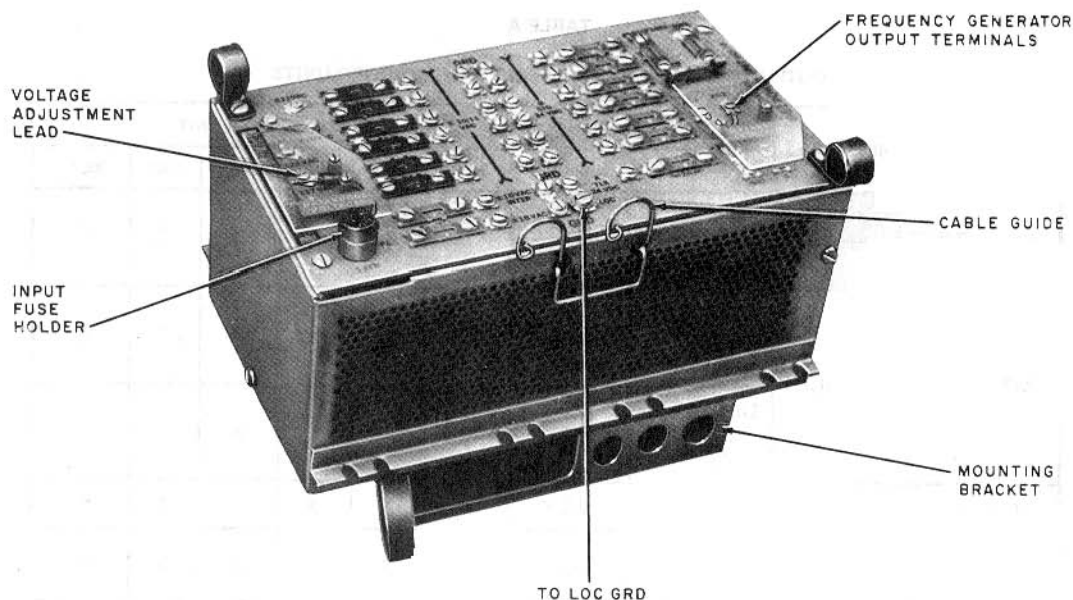

Fig. 3—30C1 Power Unit (Rack Mounted) Cover Installed
2.02 The 29B1 (Fig. 2) and 30B1 power units are fitted with a parallel blade U-grounding receptacle for use with prewired power cords. The 29C1, 29E1, and 30C1 (Fig. 3) power units are fitted with a molded plug and cord for use with the prewired cords. The prewired power cords are available in the following lengths and should be ordered separately.
**3.03** Mount the 30C1 power unit (Fig. 3) on the equipment frame using the four mounting